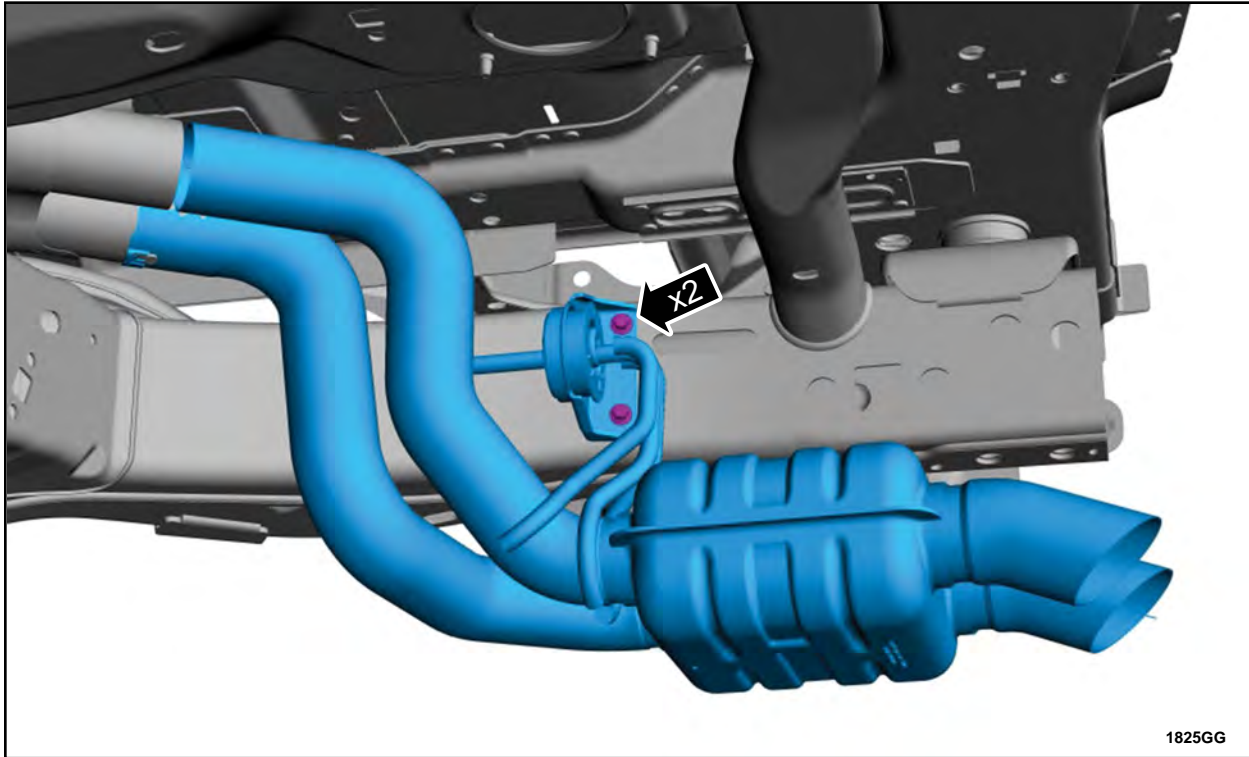

FIGURE 10
26. Remove the bolts and remove the tailpipe. See Figure 10.